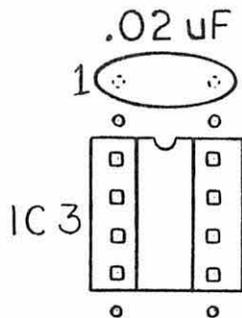

Fig. 2
4. Install one .02 μ F cap in vacant holes 1 and 14 of IC3. See Figure 2, below.